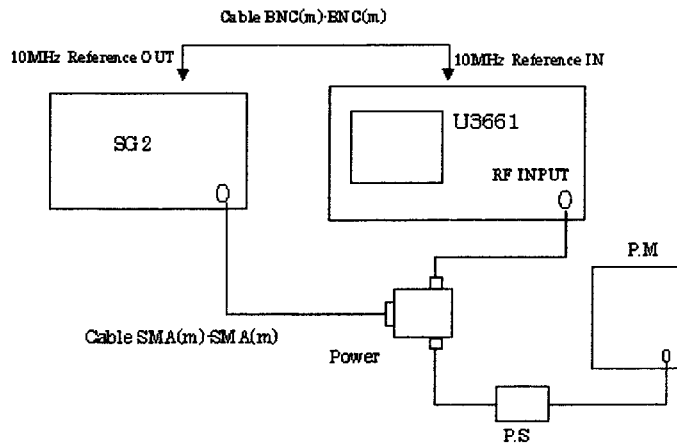

Figure 3-15 Setup of Frequency Response Test
2. Connect equipment as shown in Figure 3-15.